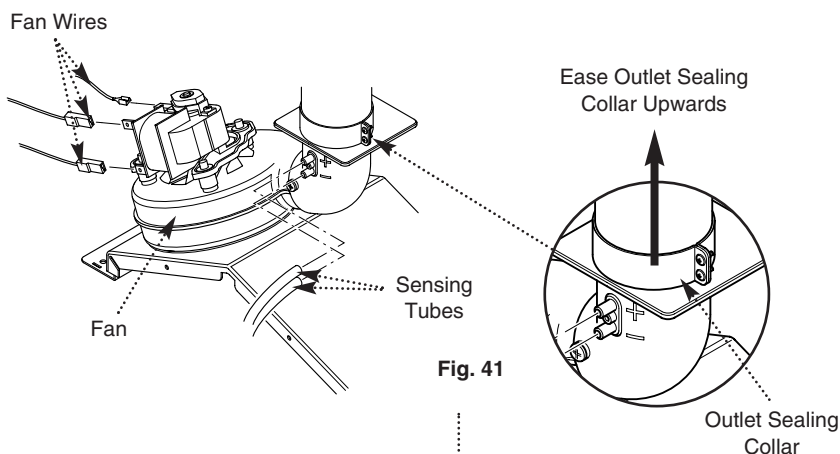

Fig. 41
7. Note the positions of the two sensing tubes on the outlet elbow and three wires on the fan motor and remove them (Fig. 41).
8. Slacken the screws on the outlet sealing collar. Ease the collar upwards as far as possible (Fig. 41).